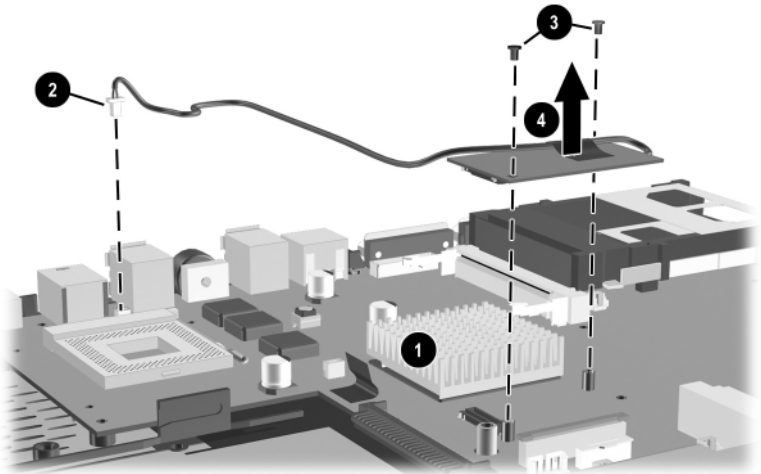

Figure 5-27. Removing the Modem Board
2. Remove the tape ❶ that secures the modem board cable to the system board (Figure 5-27).
3. Disconnect the modem board cable from the system board ❷.
4. Remove the two PM2.0 × 4.5 screws ❸ that secure the modem board to the system board.
5. Remove the modem board ❹ from the system board.